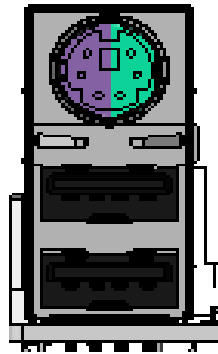

Figure 3-32: PS2, USB 2.0 Connector
- CN Location:** See **Figure 3-32**